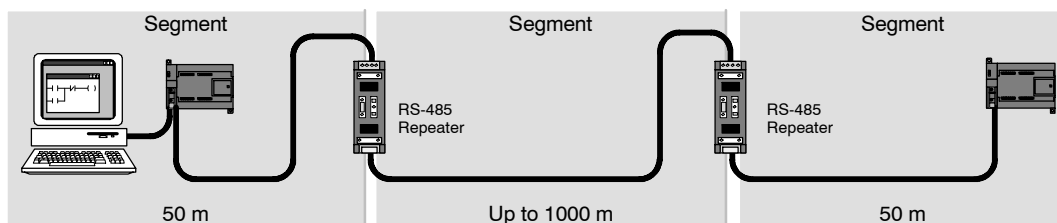

Figure B-2 Sample Network with Repeaters
- ❑ *To increase the length of a network:* Adding a repeater to your network allows you to extend the network another 50 m. If you connect two repeaters with no other nodes in between (as shown in Figure B-2), you can extend the network to the maximum cable length for the baud rate. You can use up to 9 repeaters in series on a network, but the total length of the network must not exceed 9600 m.